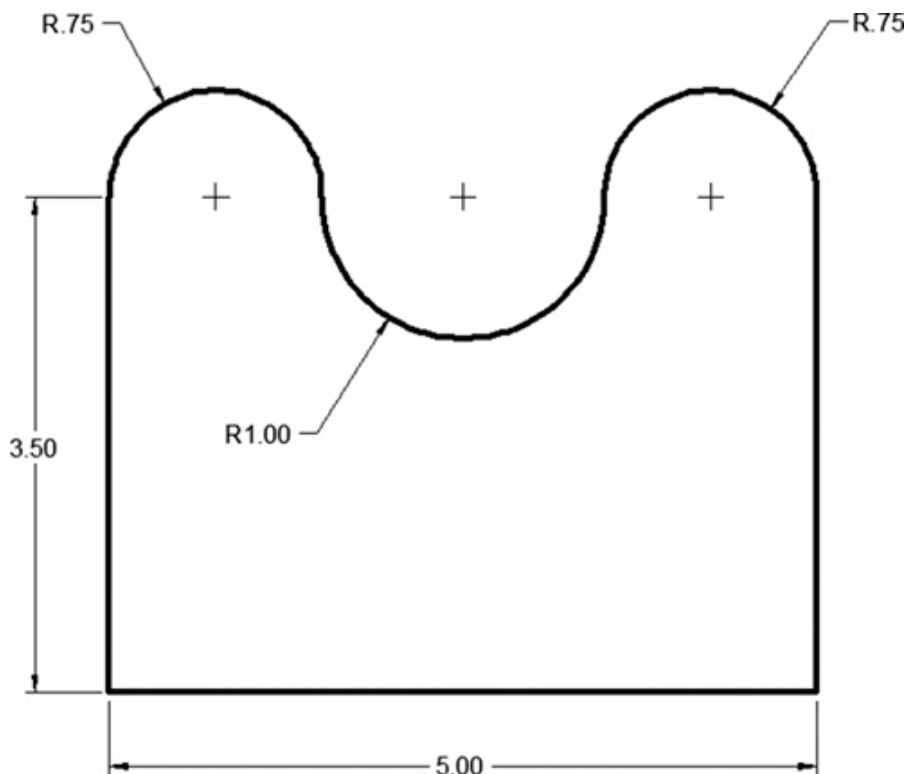

Figure 9-17
- 2 Create the drawing shown in Figure 9-17 using the **PLINE** command and the **Arc** options covered in this section. **Do not** draw dimensions.